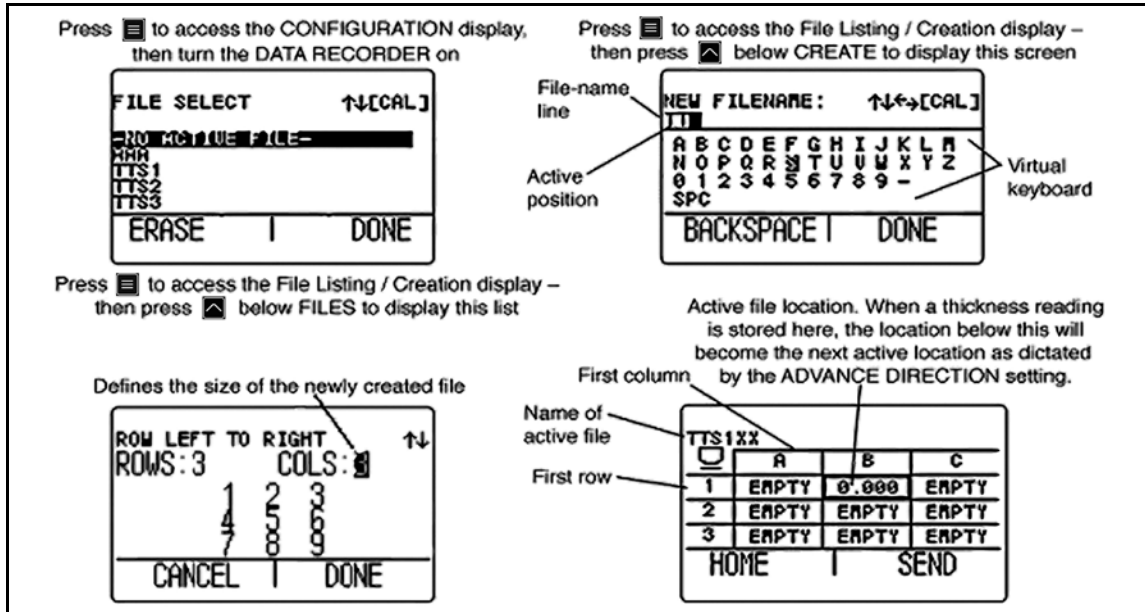

Figure 5: File Display Mode
- **File Display Mode** - Allows the user to create and store thickness readings in data recorder files. This feature is only available when the data recorder option is installed and activated (see *Figure 5 on page 12*). When installed and activated, the data recorder option allows users to create data recorder files, store thickness readings, and navigate through file contents.